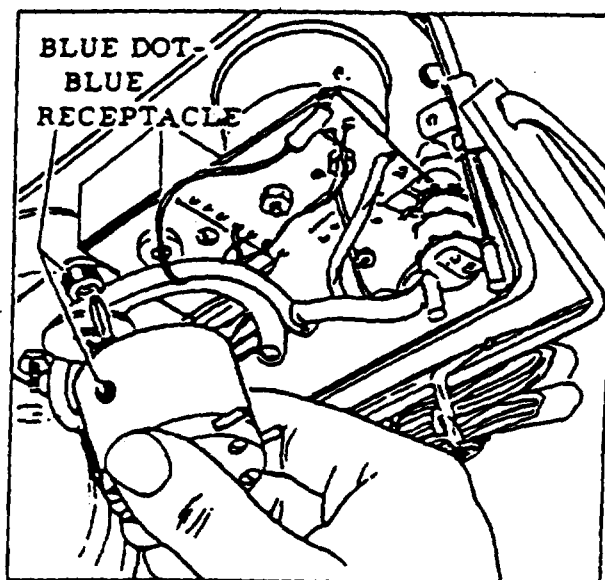

Figure 14: Correct method of connecting Oxygen Cell (note position of blue dot).
8.1 Oxygen Cell-Maintenance (Refer to Figures 14 and 15)